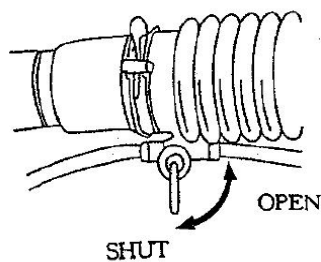

Fig. 8
- During spraying operation, while adding chemical, the switch must be shut, see Fig.8. During dusting operation, dusting valve throttle and fuel lever should be on the bottom position, other-wise, the machine will have chemical out.